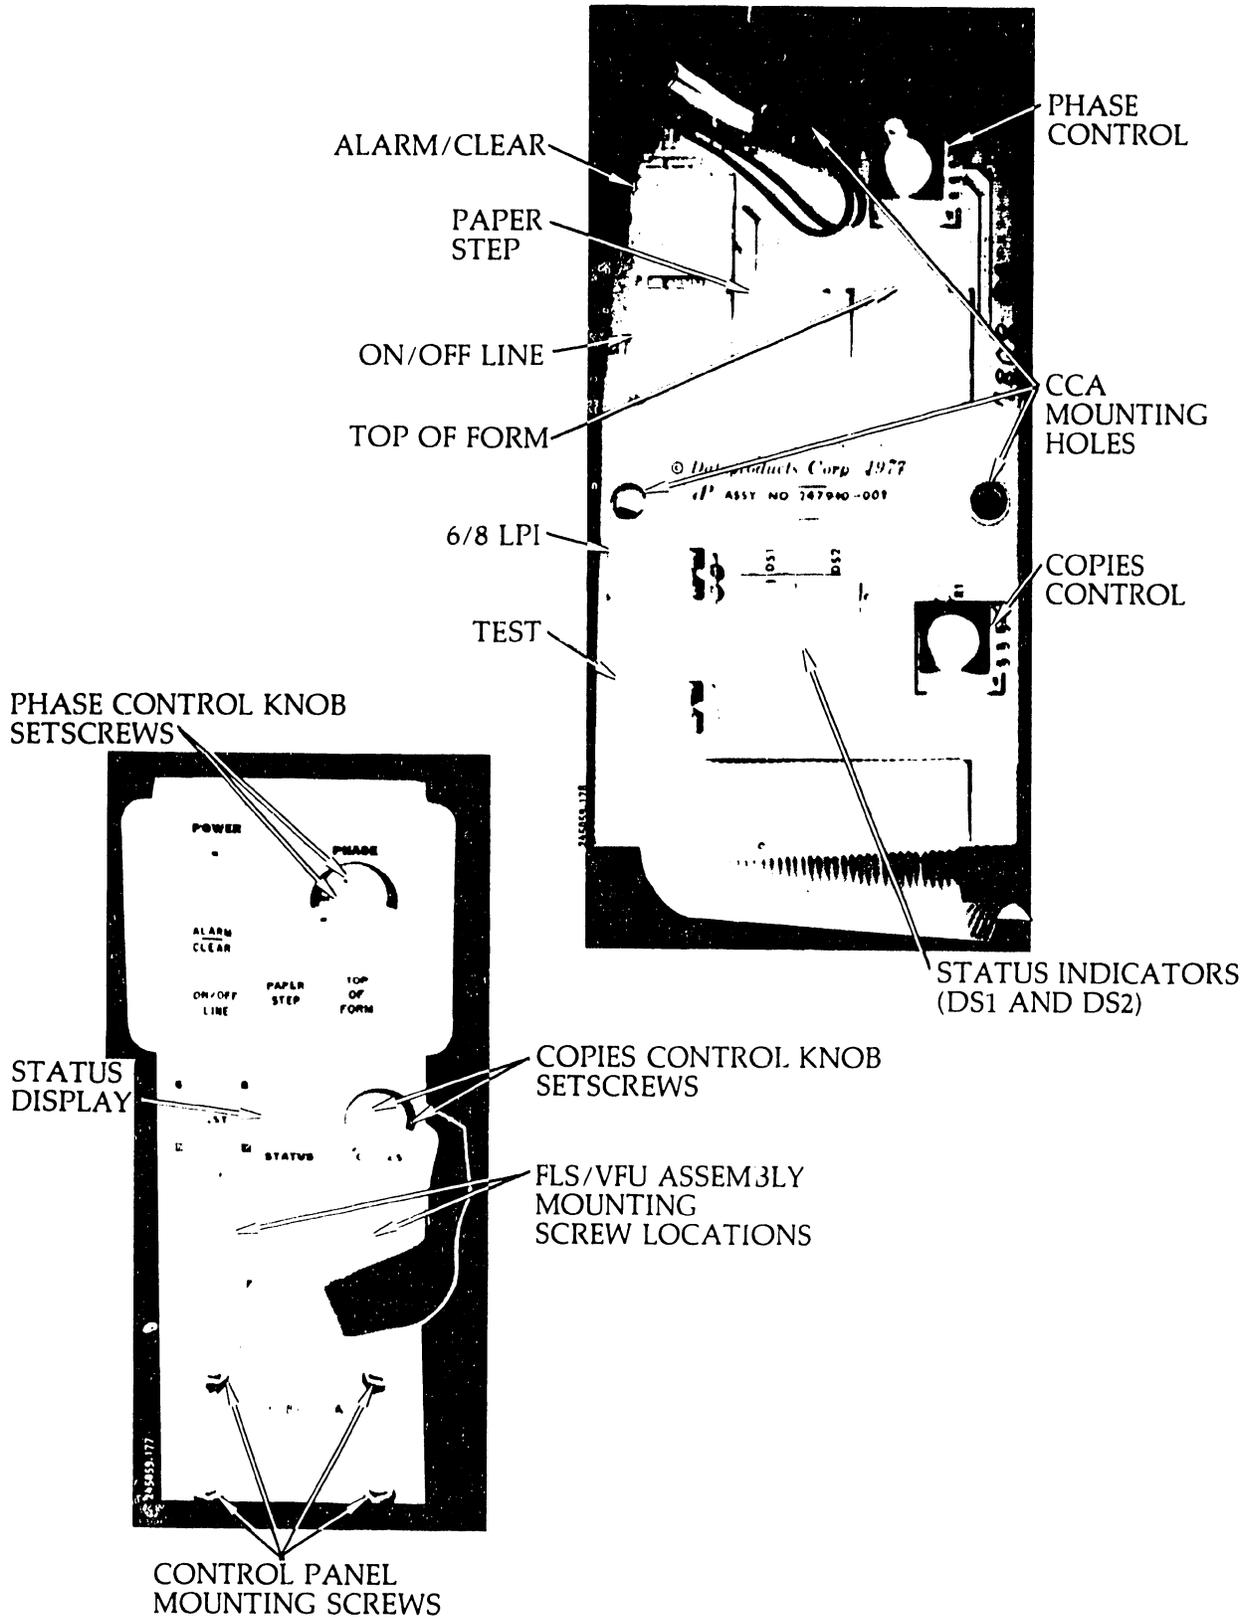

Figure 3-93B. Control Panel Circuit Card Assembly Removal/Installation
\* See Figure 3-93B
- f. Use an 8 mm nut driver to remove the four screws that fasten the Control Panel Assembly to the printer base (see figure 3-93B). This step removes the entire assembly with the CCA and cable.
- d. Plug STATUS indicators DS1 and DS2 into the Control Panel CCA (see figure 3-93B).